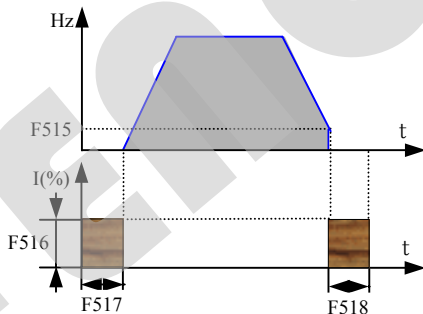

Fig 5-9 DC Braking
• DC braking, as shown in Fig 5-9.